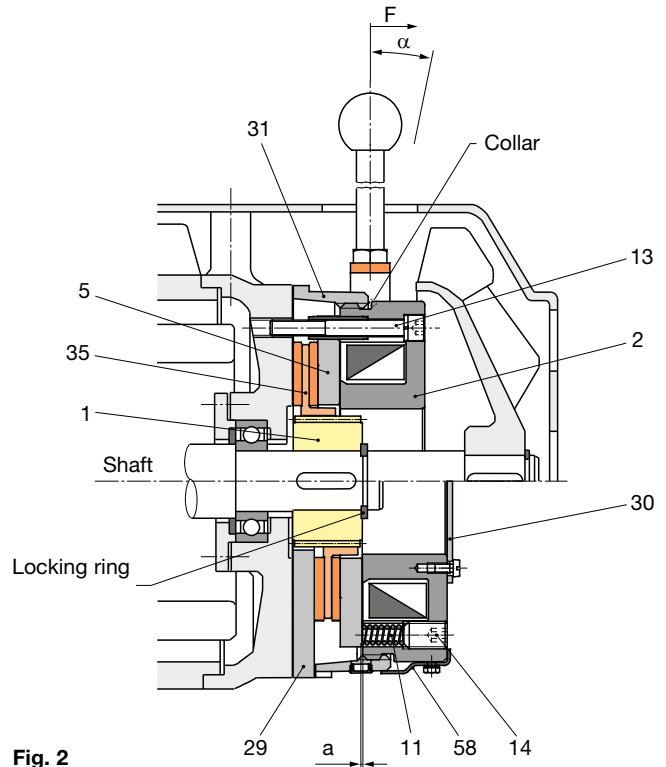

Fig. 2
- The positional tolerance of the threads for the cap screws (13, Fig. 2) must not exceed 0,2 mm.
- A suitable counter friction surface made of steel or grey cast iron must be provided for the rotor (35). Sharp-edged interruptions on the friction surfaces must be avoided. If no suitable counter friction surface is available, our flange plate (29, Fig. 2, lower half) can be used.
In the design with a mounted cover plate (30, Fig. 2, lower half), the brake is completely enclosed and corresponds to Protection IP54.
The ROBA-stop® brakes are set manufacturer-side to the braking torque stipulated on order. By turning the set screws (14, Fig. 2, page 24) to the left, the braking torque is reduced. By turning them to the right, the braking torque is increased.
When adjusting the braking torque, all set screws (14, Fig. 2, page 24) must be adjusted evenly.
If the braking torque is to be decreased to a larger extent, some springs (11, Fig. 2, page 24) must be removed. To do this, it is necessary to remove two springs which lie opposite to each other, to guarantee an even load on the armature disk (5).
The working air gap between the armature disk (5) and the coil carrier (2) is set manufacturer-side to the nominal dimension “a”, Fig. 2, page 24 and Table 1, page 25.
4. Tighten the fixing screws (13) (tightening torques acc. Table 1) and attach the lock washer (58).
Re-adjustment can be repeated until the threaded distance ring (31) lies against the coil carrier (2) collar, Fig. 2, page 24. This contact prevents unpermitted wear on the rotor (35). Replace the rotor (35) if re-adjustment is no longer possible.